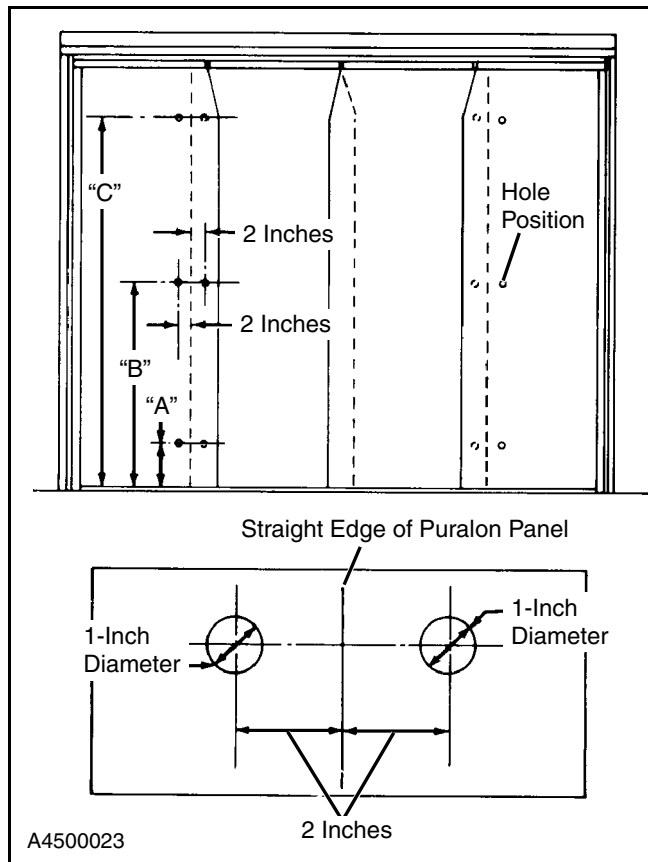

Figure 23
3. Mark the position of the holes for the knobs on the panels. Each panel has a straight edge and an edge with a 45° cut at the top. Measure from the straight edge to locate the pair of holes. (See Figure 23.)